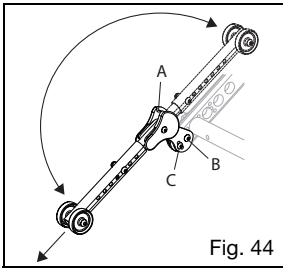

Fig. 44
- a. Pull the anti-tip down parallel to the adjustment tube and rotate it upward (Fig. 44).
- b. The anti-tip may be left floating for curb navigation, or it may be rotated all the way up into the detent (Fig. 44:A) to hold it up.
- a. Use a 4mm Allen wrench and a 10mm wrench or socket and remove the pivot screw and nut (Fig. 44:B).
- b. Use a 3mm Allen wrench and an 8mm wrench or socket and remove the angle adjustment screw and nut (Fig. 44:C).